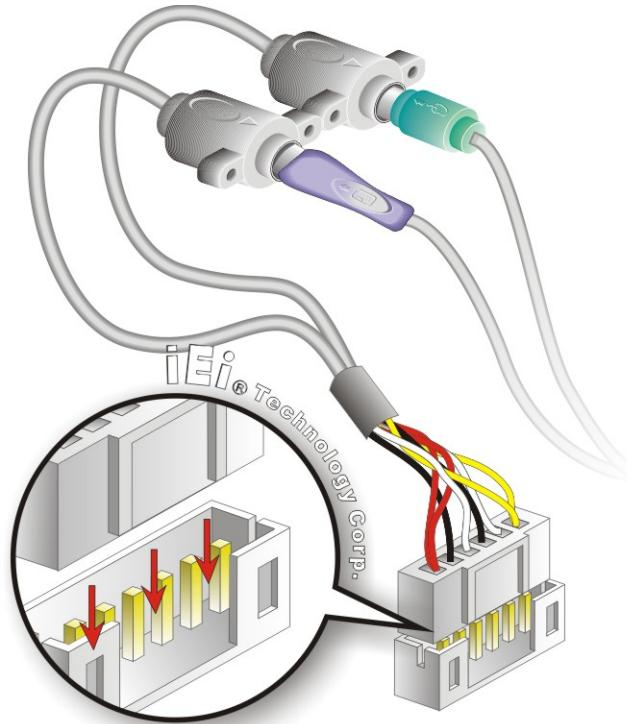

Figure 4-11: Keyboard/mouse Y-cable Connection
Step 2: Align the connectors. Correctly align pin 1 on the cable connector with pin 1 on the NOVA-945GSE keyboard/mouse connector. See Figure 4-11.
connector to the on-board connectors. See **Figure 4-11**.